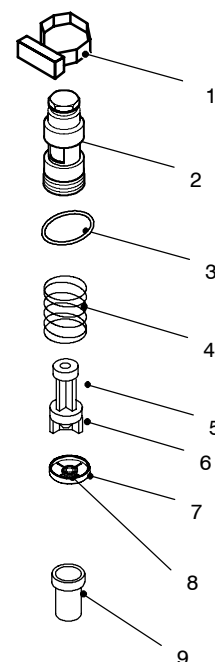

Fig. 61
When the flow rate through the d.h.w. circuit reaches about 2,5 litres/min', the float 6 (Fig. 61) is drawn towards the right.
14.2 Nomenclature and location of parts (Fig. 61)
- 3 Unscrew the body 2 (Fig. 61) and extract the flow switch group.
- 4 To remove the filter from the flow switch group separate the filter 9 from the threaded ring (Fig. 61) by levering it.
- 3 Unscrew the threaded ring 7 (Fig. 61) and remove it from the body 2.